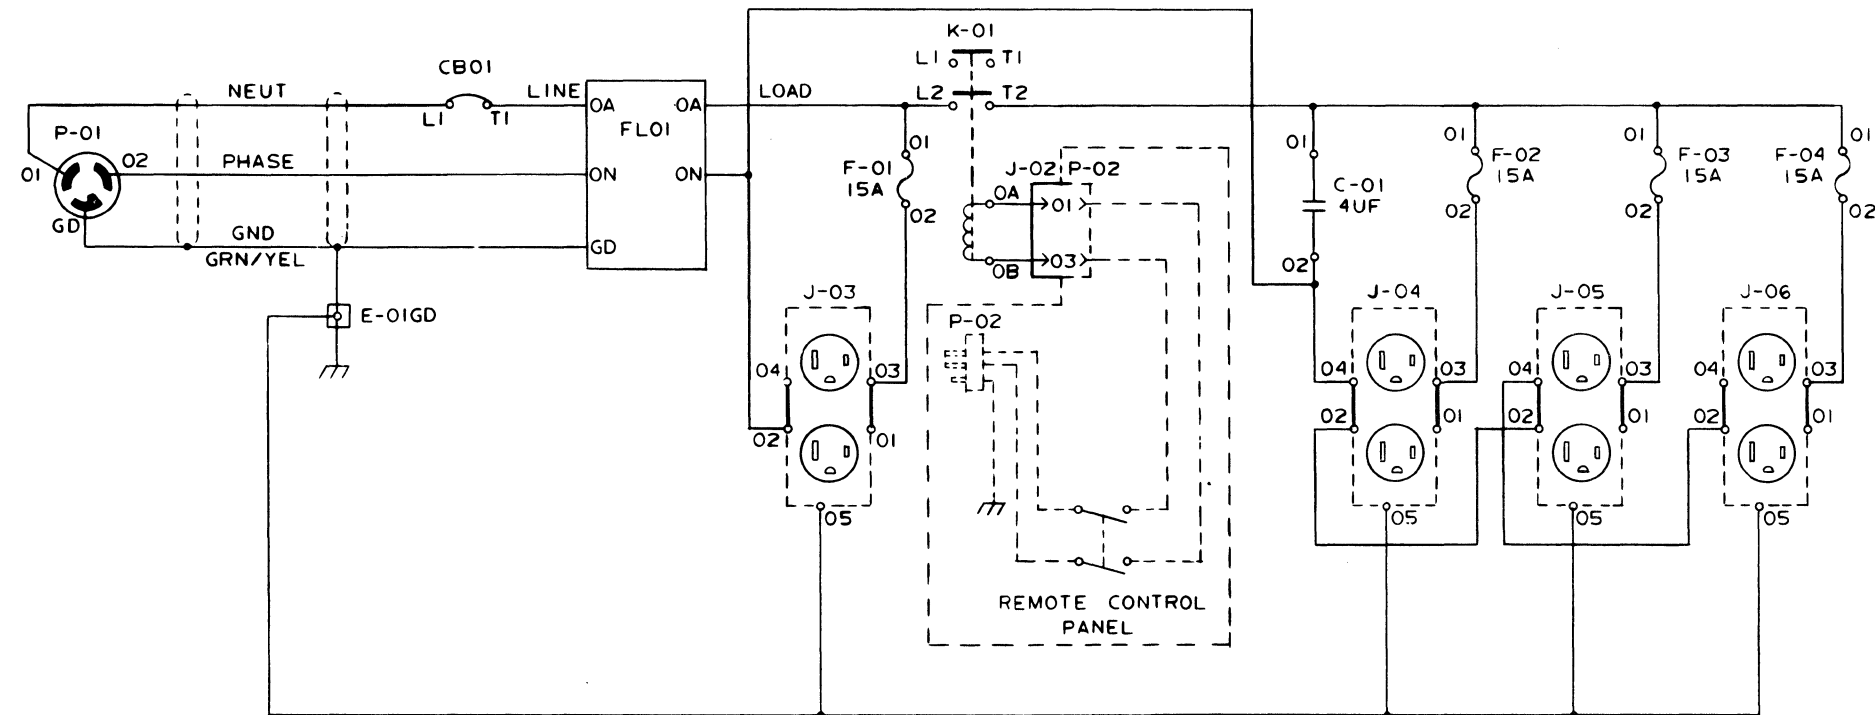

Figure 5-41 Power Distribution Unit, 60-Hz, 30A, BPDU630A Schematic
As shown in Figure 5-41, when the switch in the remote control panel is turned on, the coil of K01 in the PDU is energized, allowing the phase voltage to connect to fuse/receptacle combination F02/J04, F03/J05, and F04/J06. A four microfarad capacitor (C01) is connected from the phase to the neutral on the load side of K01 to suppress voltage transients that can occur when the contacts of K01 open.
- Figure 5-41 Power Distribution Unit (BPDU630A) Schematic - 30A, 60-Hz.